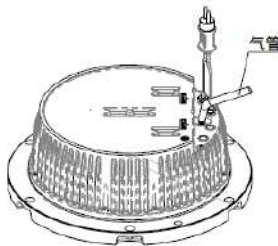

Figure 5-29
- Prepare 138Kpa air source (the air pressure shall not be greater than 150Kpa) and applicable air gun (air tube), inflate the air by aiming at the valve until the air pressure in the lighting fixture meets the requirements (Figure 5-29). Put this lighting fixture into the water with the depth of 76mm for at least 1min and check whether there are bubbles under the state of static water surface. If not, it means that the sealing property of the lighting fixture is good, otherwise it shall be deemed that the lighting fixture has leakage.